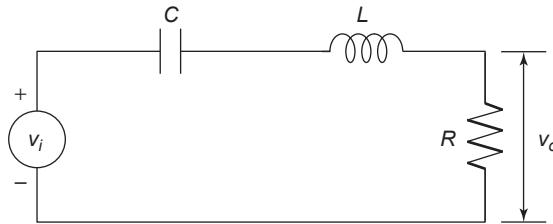

Figure P28
28. The *RLC* circuit shown in Figure P28 can be used as a *narrowband filter*. If the input voltage $v_i(t)$ consists of a sum of sinusoidally varying voltages with different frequencies, the narrowband filter will allow to pass only those voltages whose frequencies lie within a narrow range. The magnification ratio M of a circuit is the ratio of the amplitude of the output voltage $v_o(t)$ to the amplitude of the input voltage $v_i(t)$. It is a function of the radian frequency ω of the input voltage. Formulas for M are derived in elementary electrical circuits courses. For this particular circuit, M is given by
47. The *RLC* circuit described in Problem 28 and shown in Figure P28 has the following differential equation model: